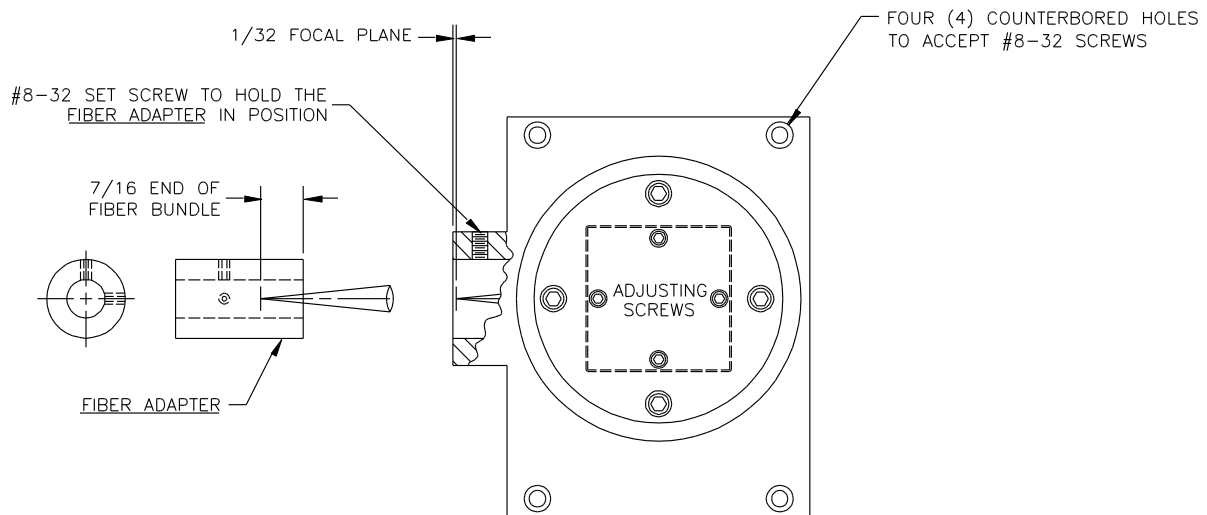

FIGURE 2
2. Loosen the #8-32 set screw that holds the Fiber Adapter in position and slide it out of the Imaging Fiber Coupler (See Figure 2).
3. Slide the Fiber Optic Input into the Fiber Adapter so that the end of the bundle is located approximately $7/16$ ” from the end of the Fiber Adapter (See Figure 2). The standard Fiber Adapter accepts a 10 mm diameter ferrule (other adapters are available as an option).
7. When best focus is achieved, tighten the #8-32 set screw to hold the Fiber Adapter in position (See Figure 2).